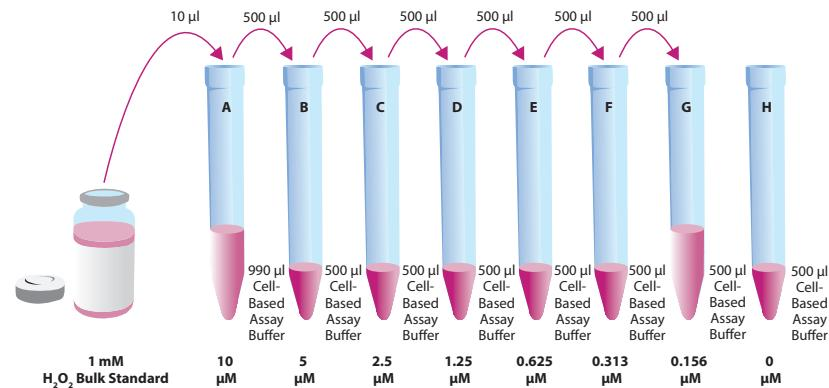
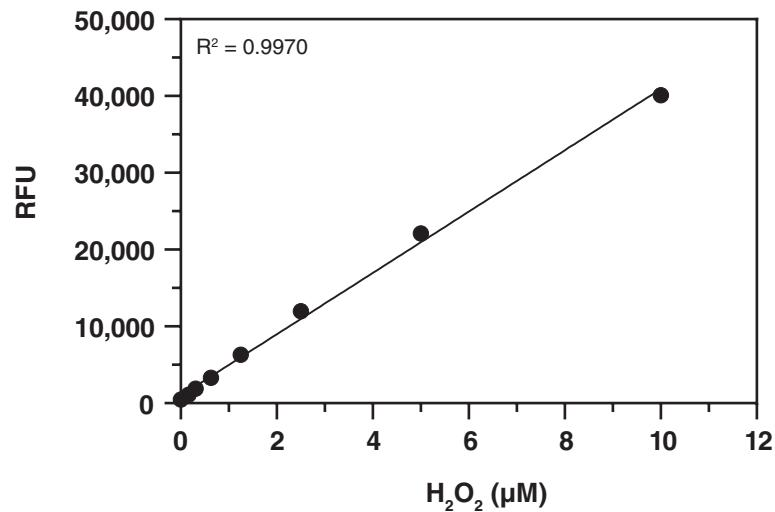

Figure 2. Preparation of the H_2O_2 standards for the fluorometric assay format
Figure 3. H_2O_2 standard curve for the fluorometric format
3. Plot the CSM values of each standard as a function of the final concentration of H_2O_2 from Figure 2 on page 13 or Table 1 on page 14, respectively. See Figures 3 and 4, on pages 17 and 18, for typical standard curves.
4. Subtract the catalase sample fluorescence or absorbance from the non-catalase sample fluorescence or absorbance to yield the corrected sample signal (CS).